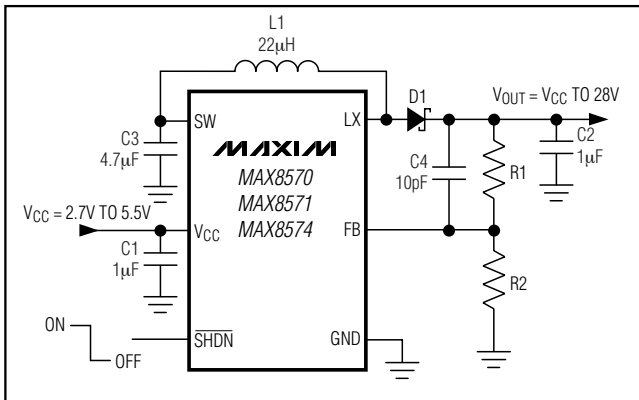
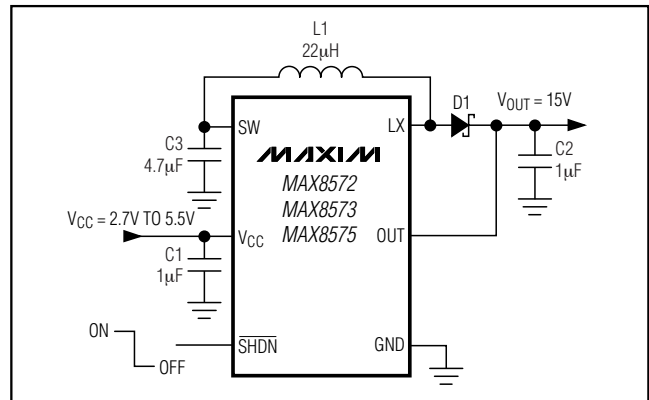

Figure 2. Typical Application Circuit with Adjustable Output Voltage
Figure 3. Typical Application Circuit with 15V Preset Output Voltage
(MAX8571,  $V_{CC} = 3.6V, V_{OUT} = 18V$ , Circuit of Figure 2,  $T_A = +25^{\circ}C$ , unless otherwise noted.)
(MAX8571,  $V_{CC} = 3.6V$ ,  $V_{OUT} = 18V$ , Circuit of Figure 2,  $T_A = +25^\circ C$ , unless otherwise noted.)
**LINE TRANSIENT 3V TO 5.5V (FIGURE 3, MAX8573)**
(MAX8571,  $V_{CC} = 3.6V$ ,  $V_{OUT} = 18V$ , Circuit of Figure 2,  $T_A = +25^{\circ}C$ , unless otherwise noted.)
The output voltage of the MAX8570, MAX8571, and MAX8574 is adjustable from VCC to 28V by using a resistor voltage-divider (see Figure 2). Select R2 from 10k $\Omega$  to 600k $\Omega$  and calculate R1 with the following equation:
The MAX8572, MAX8573, and MAX8575 have a fixed 15V output. When using these parts, connect OUT directly to the output (see Figure 3).
The MAX8570 family uses two soft-start mechanisms. When the true-shutdown feature is used (SW is connected as in Figure 2 and Figure 3), the gate of the internal high-side p-channel switch turns on slowly to prevent inrush current. This takes approximately 200 $\mu$ s. When SW is fully turned on, the internal n-channel switch begins boosting the input to set the output voltage. When VFB is less than 0.5V (with or without the use of true shutdown), the minimum off-time of the internal n-channel switch increases from 1 $\mu$ s to 5 $\mu$ s to control inrush current.
For the MAX8570/MAX8571/MAX8574 a feed-forward capacitor (C4 in Figures 2 and 3) connected from the output to FB improves stability over a wide range of battery voltages. A 10pF capacitor is recommended for the MAX8571 and MAX8574. A 10pF to 47pF capacitor is recommended for the MAX8570. Note that increasing C4 degrades line and load regulation.